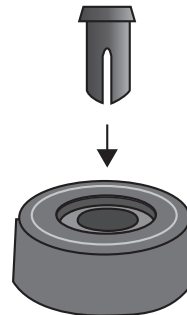

Figure 21. Inserting the Rivet Housing into the Bumper Foot
2. Inset a rivet housing into a bumper foot. Refer to Figure 21.